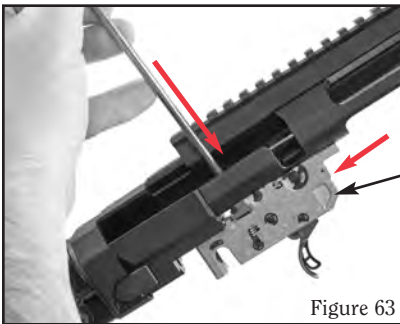

Figure 63
3. The cocking piece guide holds the trigger assembly forward and in place. Using a non-marring tool, depress the cocking piece guide through the bolt opening inside the receiver. (See Figure 63.) While holding the cocking piece guide down, slide the trigger assembly rearward towards the butt stock and out of the rifle (see Figure 63).